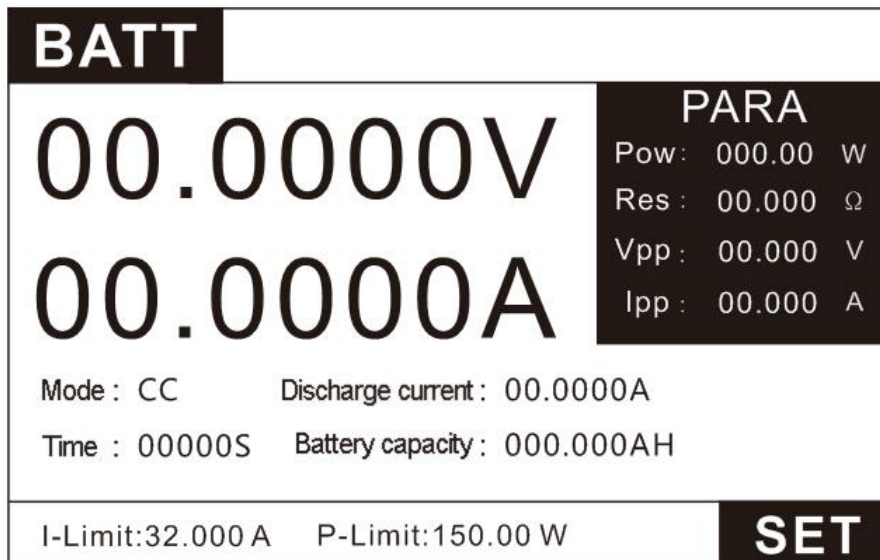
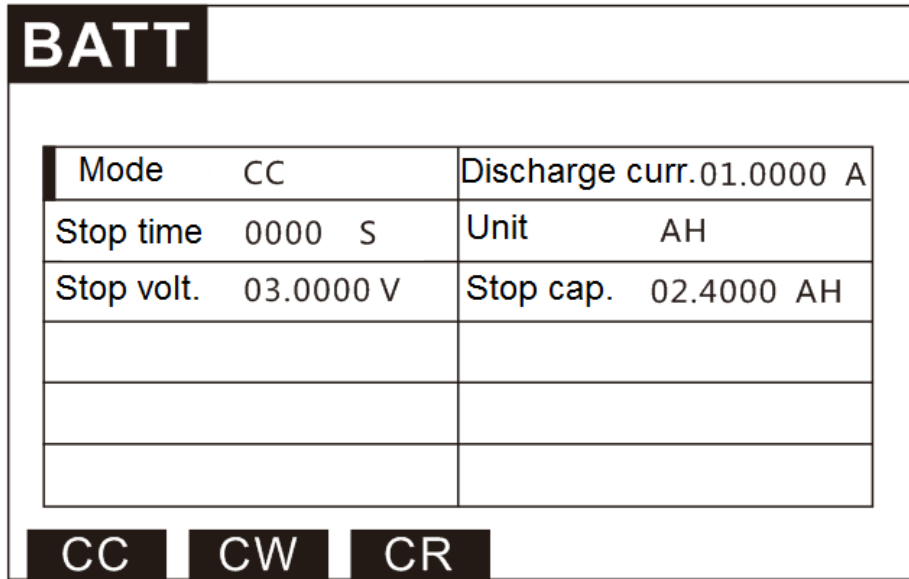

Figure 3.21 Battery mode test Page
Figure 3.22 Battery mode setting page
1. Press the key  to enter the mode selection page, press the up and down keys to select BATT, and press the key  to enter the BATT test interface, as shown in Figure 3.21.
2. In Figure 3.21, press the key  to enter the setting interface, as shown in Figure 3.22.
3. As shown in Figure 3.22, set the discharge mode to CC mode, current at 1A, stop time at 0S (when the stop condition is set to 0, it does not participate in the stop judgment.), the stop voltage at 3V, and the stop capacity at 2.4Ah.